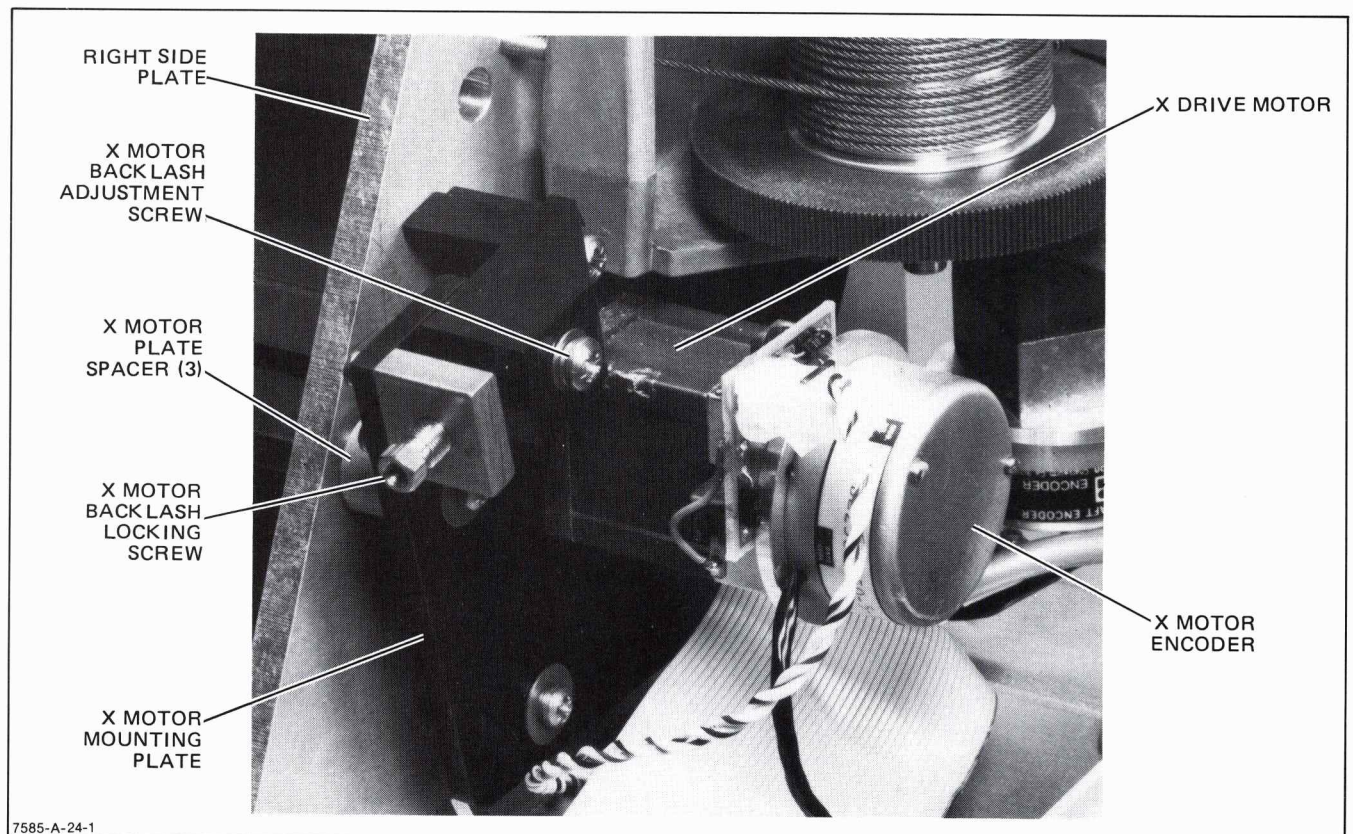

Figure 6-11. X-Drive Motor/Encoder Replacement
- d. Loosen the X-motor backlash locking screw. See Figure 6-11.
- i. Install the X-motor/encoder assembly on the X-motor mount with its two mounting screws. Refer to Figure 6-11 for correct orientation of the motor on the mount.
- l. Loosen the X-motor backlash locking and adjustment screws. See Figure 6-11.
- m. Remove the X-motor mounting plate screws and remove the plate. See Figure 6-11. Retain the three spacers and wavy washers for reassembly.